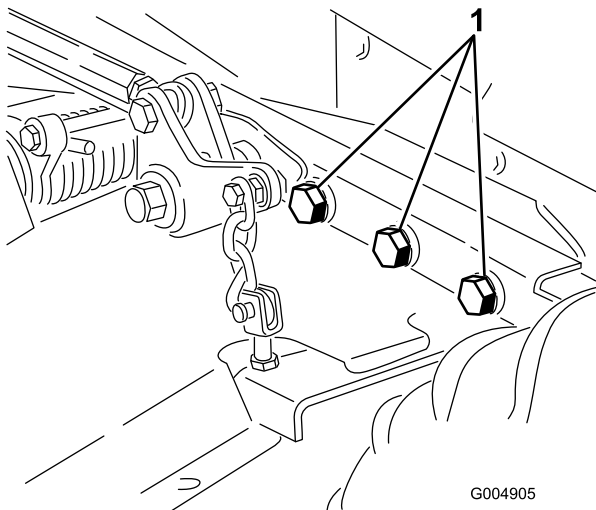

Figure 81
4. Check all fasteners for looseness and tighten them as necessary. Especially torque the 6 bolts securing the mower deck frame to the traction unit (Figure 81) to 359 N-m (265 ft-lb).